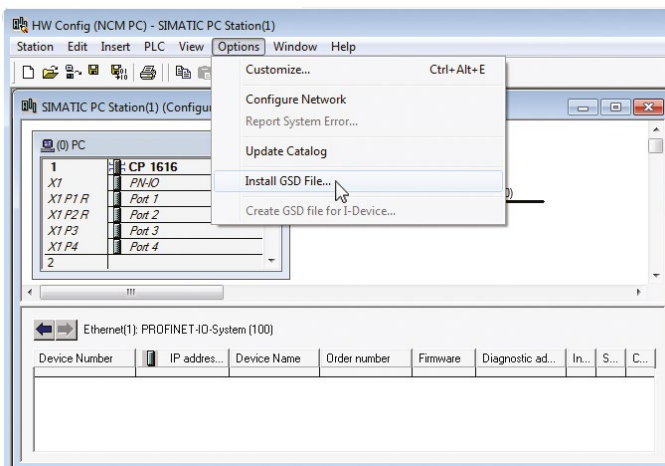

Fig. 61: HW Config (source: Siemens)
1. For this purpose, select the following options in window "HW Config" (Fig. 61):